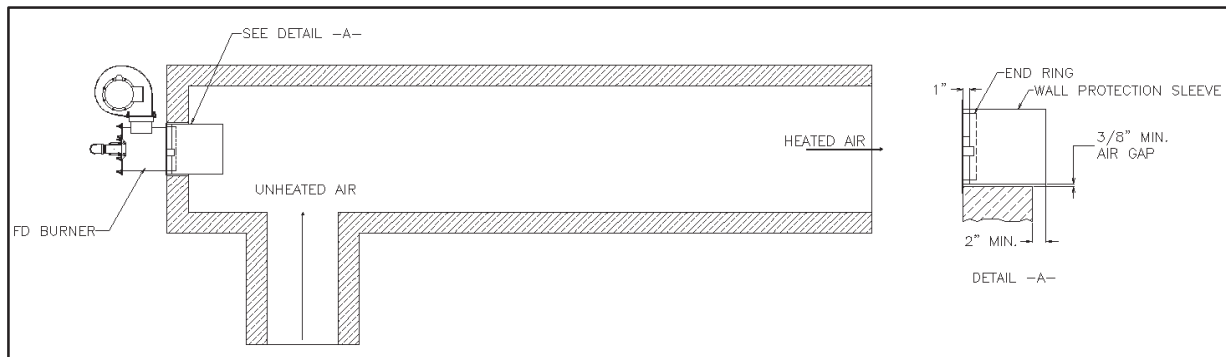
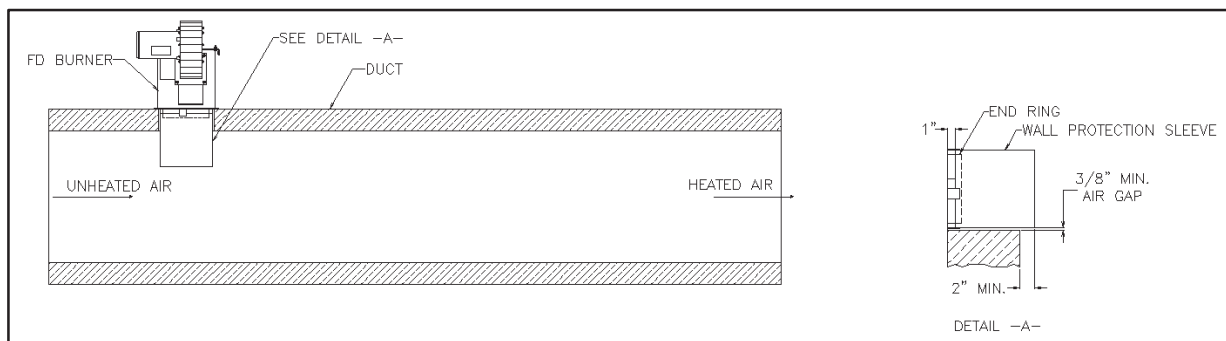

Figure 1: FD/FDM burner L configuration
Figure 2: FD/FDM Burner Cross Flow Configuration
- 2.1.4 The FD/FDM burner can be mounted on the heating/combustion chamber end wall (**Figure 1**) or through the chamber sidewall in a cross flow configuration (**Figure 2**). In either configuration, the mounting wall should be designed to properly support the burner assembly and be constructed of suitable fire retardant, insulating materials. The combustion chamber or heat exchanger should be inspected to ensure that the internal surfaces are clean and that, as appropriate, all access doors, cracks or openings are tightly sealed.
- 2.1.6 For direct fired, cross flow configurations, the FD or FDM burner assembly should be fitted with the extended combustion tube that extends through the combustion chamber wall and into the process air stream (see **Figure 2**). The extended combustion tube is constructed from stainless steel and is designed to shield the flame from cross flow air or products of combustion that exceed 20 ft/sec.
- 2.1.8 Bolt the burner assembly rigidly onto the combustion chamber or heat exchanger front wall as shown in **Figures 1 and 2**. It is important to achieve a tight seal between the burner front flange and the chamber wall. The use of a high temperature gasket is recommended. Mounting flange gaskets are available from Power Flame.